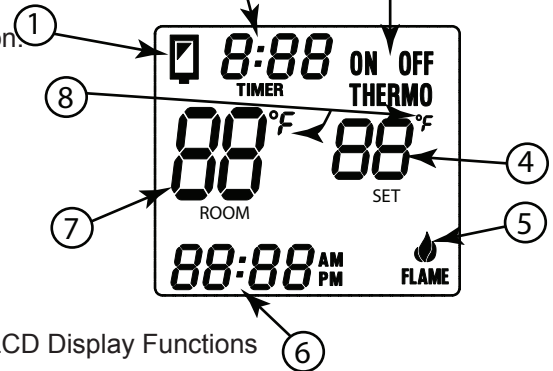

Fig. 2 LCD Display Functions
The transmitter operates on (2) AAA size 1.5DCV batteries. It is recommended that **ALKALINE** batteries always be used for longer battery life and maximum operational performance. **IMPORTANT:** New or fully charged batteries are essential for proper operation of the multi-function transmitter. Insert (2) AAA size 1.5DCV batteries into the battery compartment on the back of the transmitter, positioning the (+) and (-) ends of the batteries as indicated on the casing. When the batteries are inserted, the screen in figure 2 (with similar numbers) will display.
Note: If a LOW battery icon appears on the screen, check the position of the batteries. See Fig. 2.